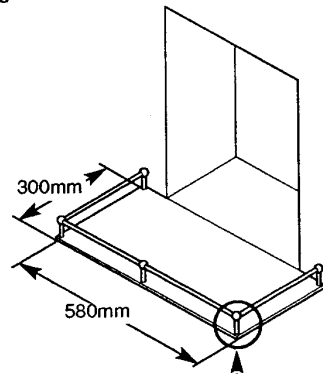

Fig. 7
3. Alternatively, a fender rail or upstanding edge of 50mm (2in) height can be fitted to the periphery of the 13mm ( 1/2 in) non-combustible hearth (Fig. 7).